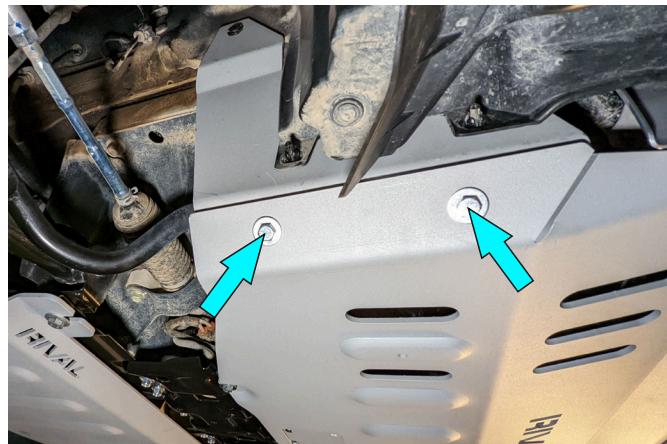

Fig. 6
6. Attach engine skid plate (item 1) on bracket (item 3 and item 4), using bolts M8x20 (item C) and washers 8 (item G) (Fig.6).